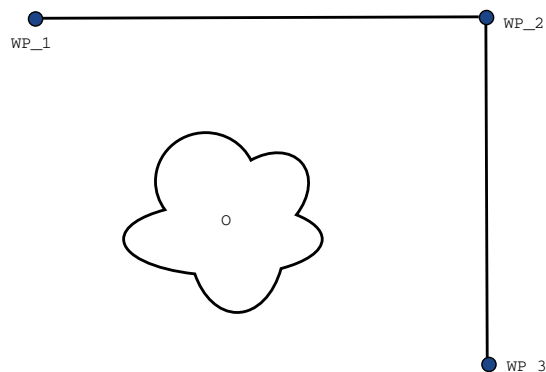

Figure 15.2: WP_1: initial position, WP_2: via point, WP_3: pick up position, O: obstacle.
Example Consider a pick and place application as an example (see figure 15.2), where the robot is currently at Waypoint 1 (WP_1), and it needs to pick up an object at Waypoint 3 (WP_3). To avoid collisions with the object and other obstacles (O), the robot must approach WP_3 in the direction coming from Waypoint 2 (WP_2). So three waypoints are introduced to create a path that fulfils the requirements.